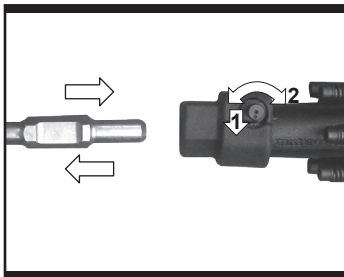

Fig. 2
2. FITTING THE CHISEL (See Fig. 2)
3. REMOVE THE CHISEL (See Fig. 2)